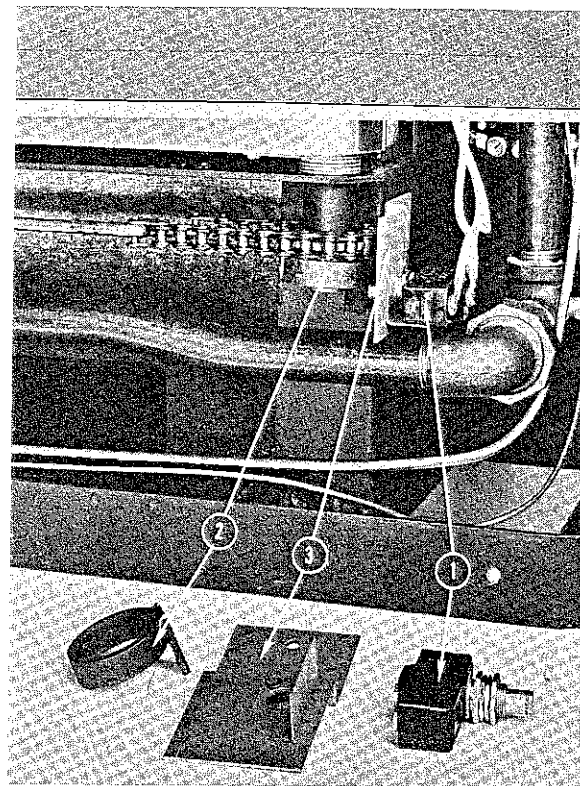

FIG. 16
4. Remove wire to door interlock switch (Figure 16, No. 1).
5. Cam assembly (Figure 16, No. 2) and interlock switch bracket (Figure 16, No. 3) accessible for parts replacement.